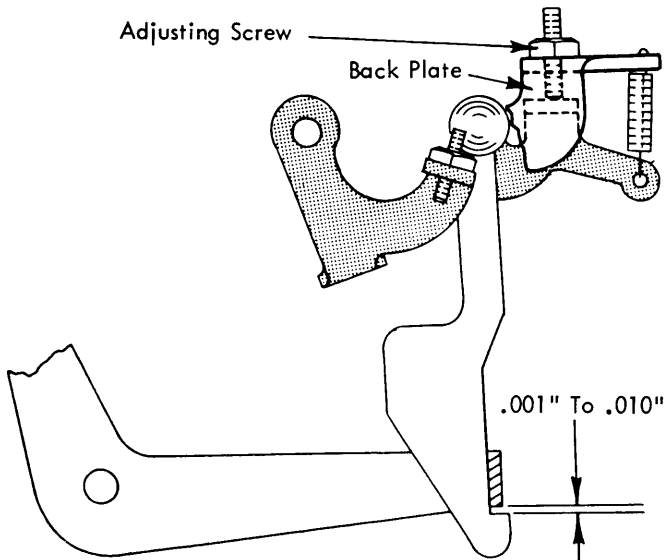

FIGURE 130. Carrier Return Latch Height Adjustment (721)
1. **Carrier Return Latch Height (721 only)** - With the carrier return/index cam at rest, adjust the carrier return latch height by the adjusting screw on the backplate (Fig. 130) so that the latch will pass under the cam follower by .001" to .010" when it is released to the rear.